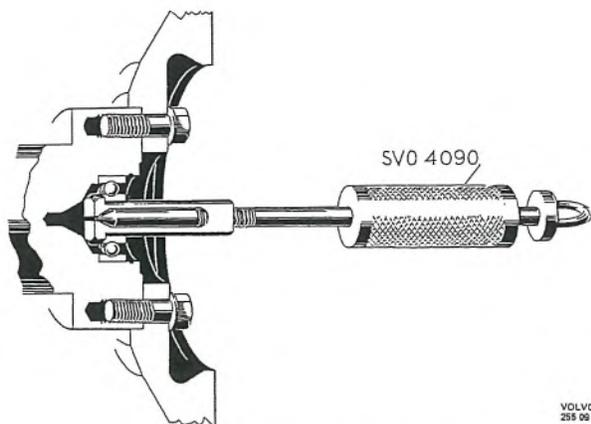

Fig. 4-6. Removing pilot bearing
- The bearing is pulled out with puller 4090, see Fig. 4-6. The bearing is cleaned in gasoline